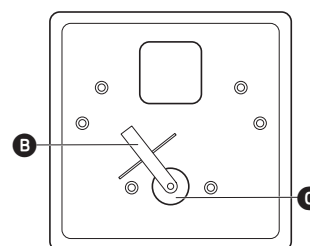

Fig. 3 Cover inside
- 3 Remove the rocker arm **B** and the existing membrane **C** from the cover. (Fig. 3)
Note: The rocker arm must be in an upright position, see Fig. 3.